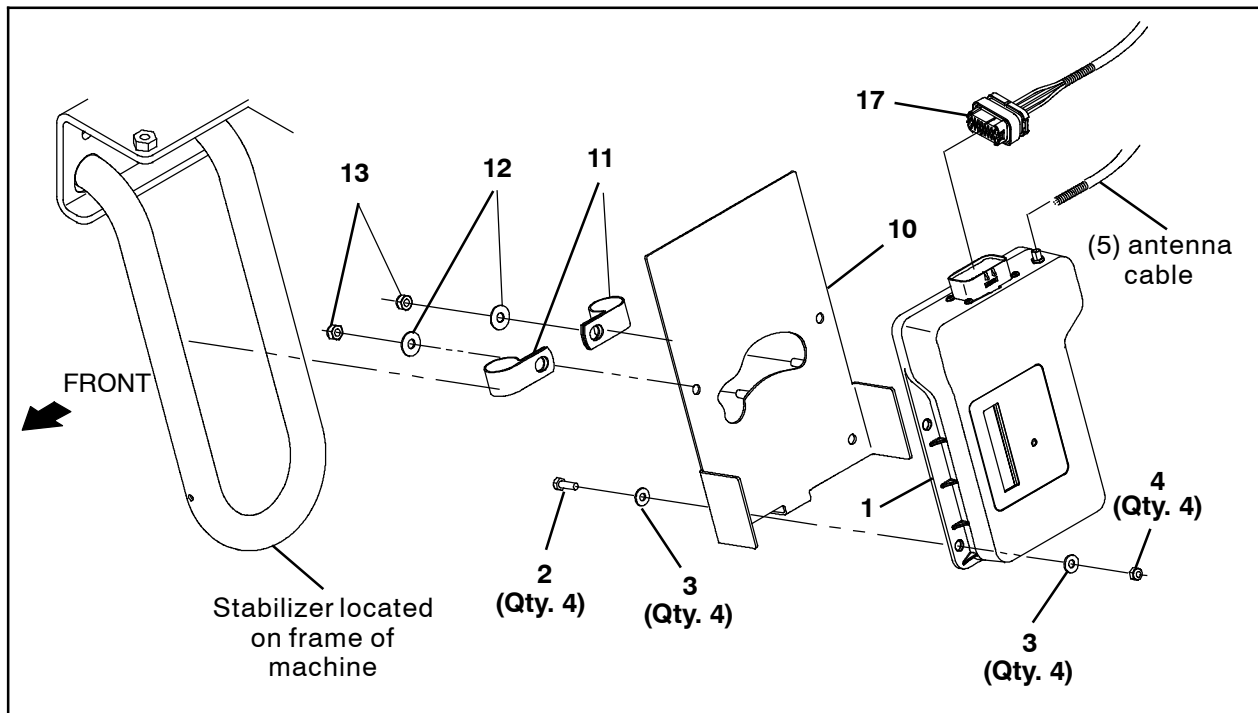

FIG. 8
16. Connect the telemetry harness (17) and antenna (5) cable to the telemetry control box (1). (Fig. 8)
17. Use four M5 hex screws (2), eight flat washers (3), and four M5 hex nuts (4) to install the telemetry control box (1) onto the mounting bracket (10). (Fig. 8)
18. Use two M6 hex nuts (13), two flat washers (12), and two cable clamps (11) to install the telemetry control box (1) / mounting bracket (10) onto the stabilizer weldment. (Fig. 8)